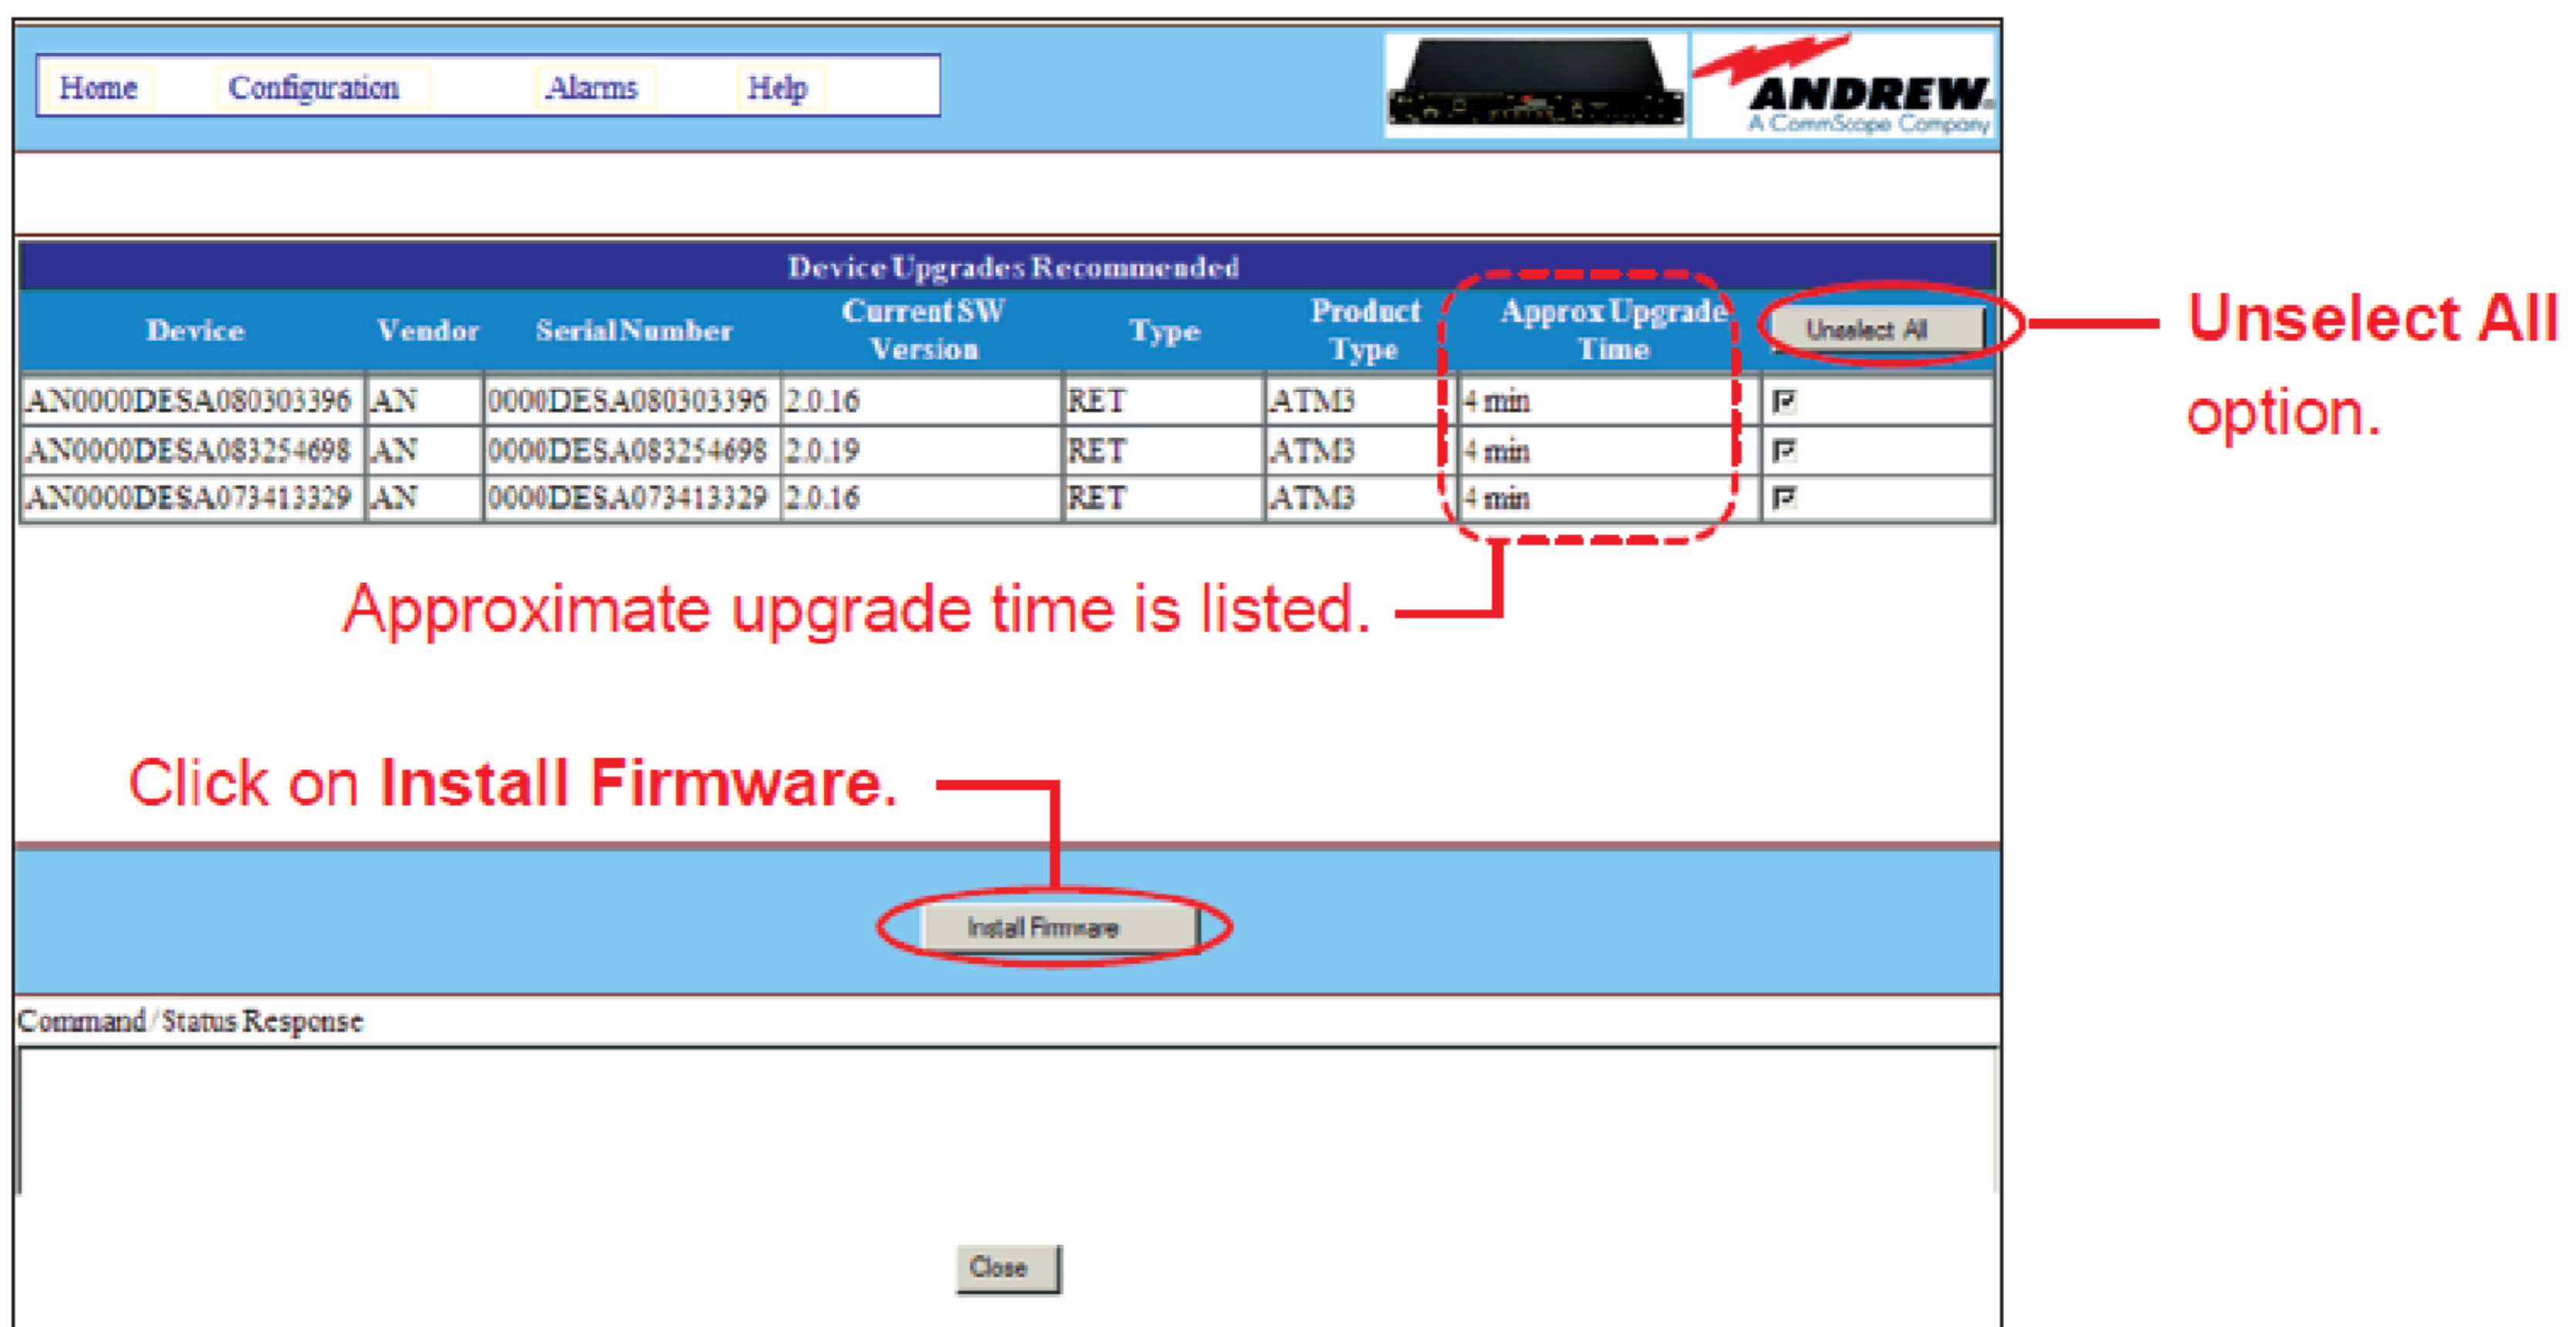

Figure 5. Initiating Updates.
3. Only the devices in need of updates will appear on the **Device Upgrades Recommended** screen. Select desired updates. Click on **Install Firmware** (Figure 5). Firmware updates are applied to the selected devices individually.